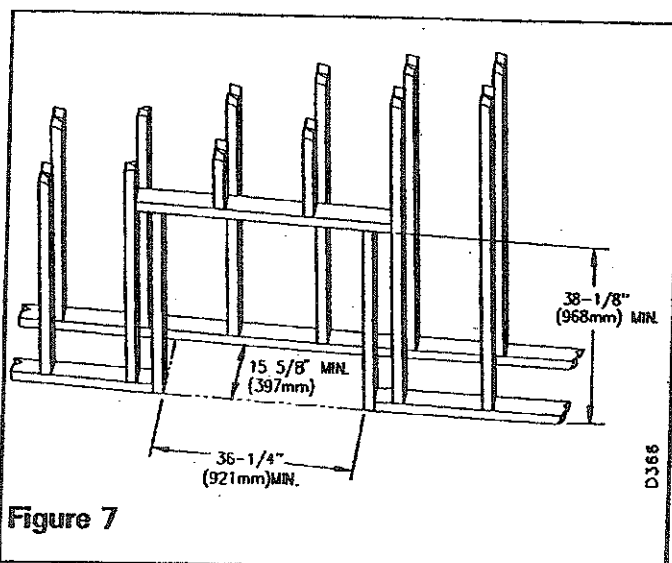

Figure 7
1. Frame appliance enclosure as illustrated in Figures 7 to 9.